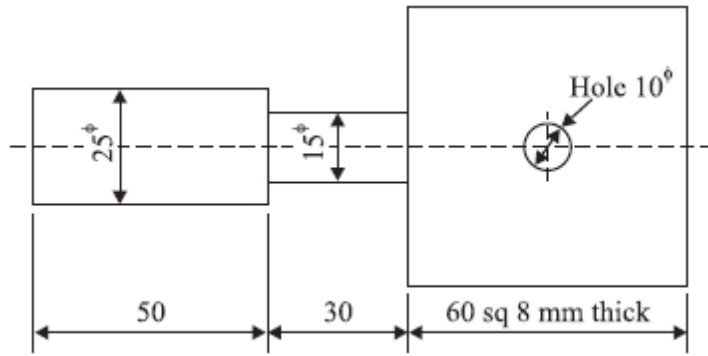

Fig. 5.29. Lever (all dimensions in mm).
(b) Estimate the net weight and gross weight for the manufacture of 500 levers shown in Fig. 5.29. The material weighs 7.8 gms/cc and the total losses account for 25 percent of net weight of the lever. Also calculate: (8) BT2